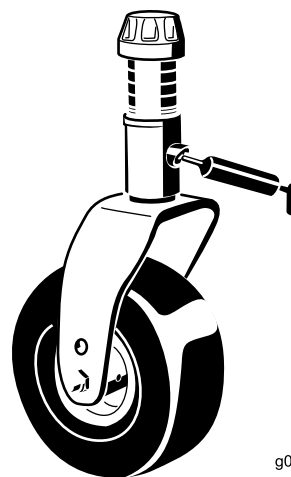

Figure 65
- Castor fork shaft bushings (2) (Figure 65)